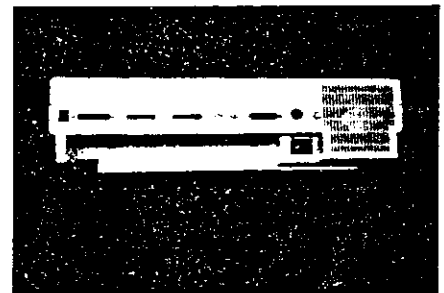

Fig. 2-1. Rear Connectors
**2.1.2** Remove all peripheral cables and keyboard connector from rear of unit. See Fig. 2-1.